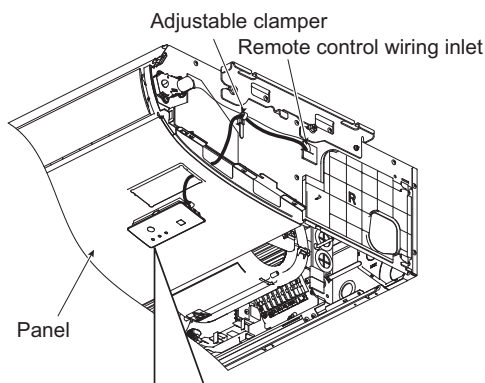
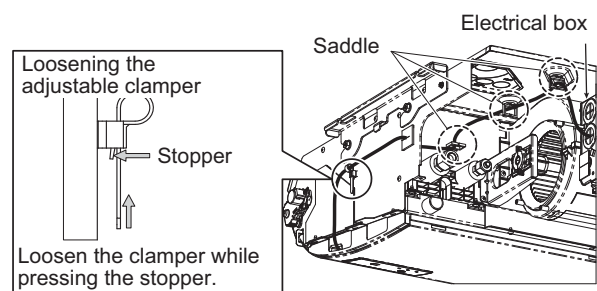

Fig. 8-38
Fig. 8-39
- (3) Route the remote control wiring through the panel, and mount the receiver into the panel holes. (Fig. 8-38)
- (4) Route the remote control wiring through the adjustable clamber, and draw in the wire from the remote control wiring inlet to the inside of the indoor unit. (Fig. 8-38) (See Fig. 8-39 for how to loosen the adjustable clamber.)
- (5) Route the remote control wiring through the three saddles, and draw the wire into the electrical box. (Fig. 8-39)